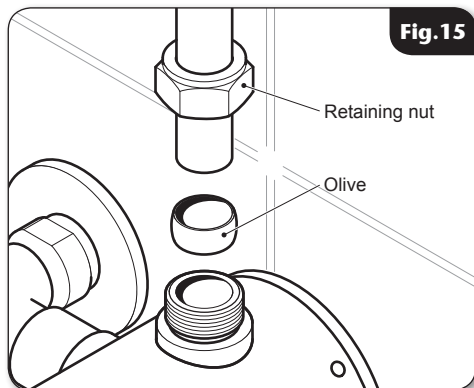

Fig. 15
- Slide the retaining nut and olive onto the bottom section of pipework (fig.15) and insert the assembly into the mixer outlet.